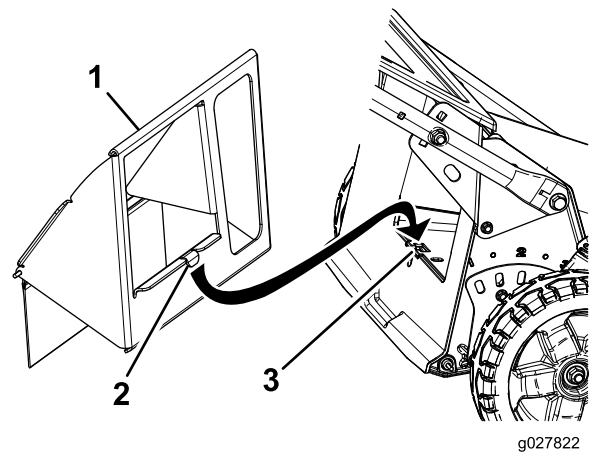

Figure 2
3. Install the rear-discharge deflector (Figure 2).
Note: Insert the tab of the rear-discharge deflector into the slot in the bottom of the opening (Figure 2).